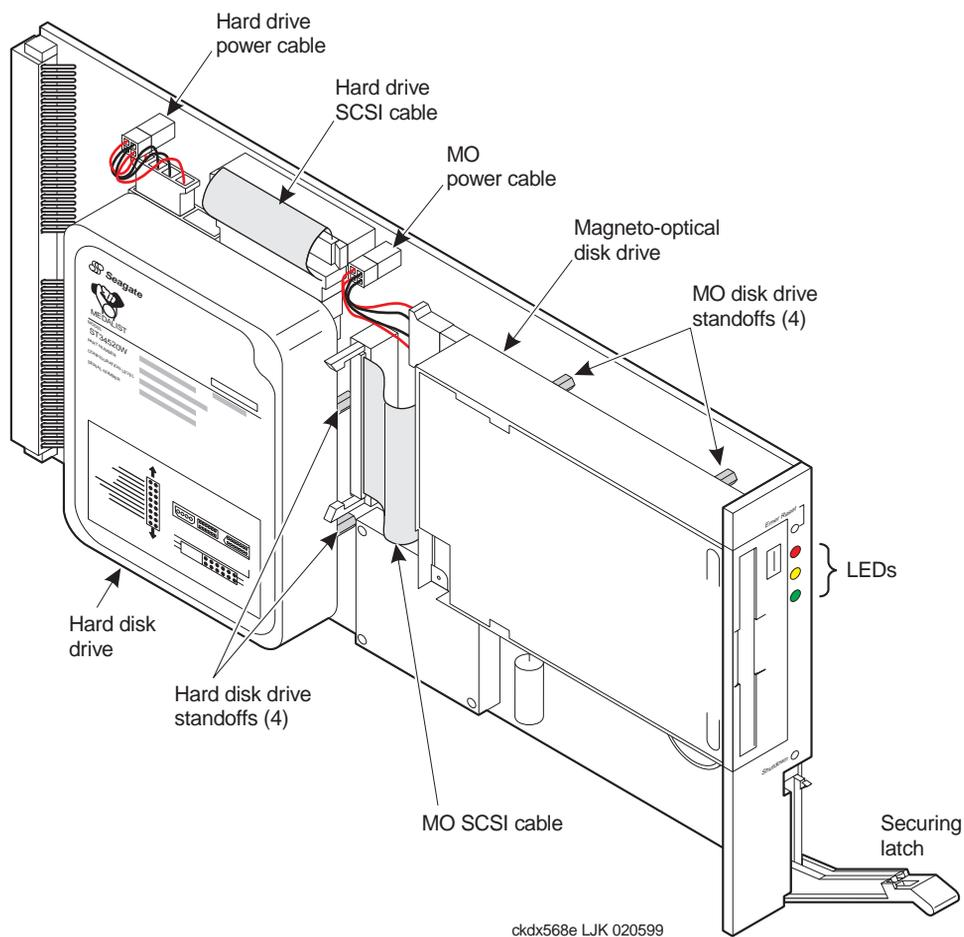

Figure 4-1. Side View of DEFINITY AUDIX System
Refer to Figure 4-1, Side View of DEFINITY AUDIX System, when replacing the disk or MO drive.
2. Align the circuit board over the standoffs with the drive in the correct orientation. Insert the four screws that attach the drive to the circuit pack. For the MO drive, the slot for inserting the MO disk should be facing the faceplate. For the hard disk, the SCSI connection should face the top of the board with the label readable. See Figure 4-1 for the placement for the hard disk.